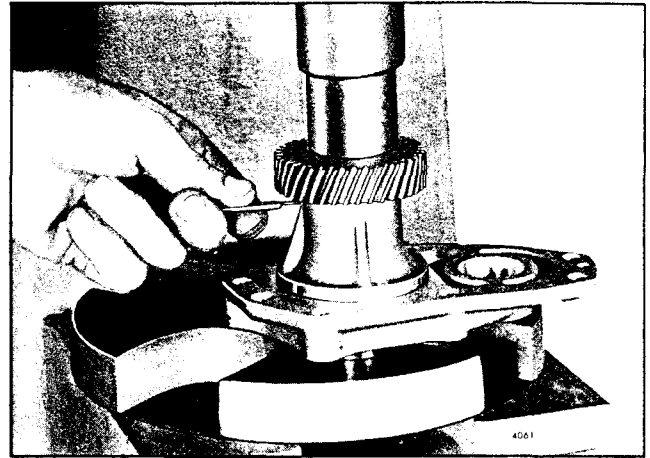

Fig. 17 - Installing Blower Drive Gear on Shaft
4. Install the key in the shaft, then place the blower drive support on an arbor press. Lubricate the inner diameter of the blower drive gear and start it straight on the shaft, with the keyway in the gear aligned with the key in the shaft. Place a spacer over the gear and press the gear on the shaft until a .005" feeler gage may just be withdrawn (Fig. 17).